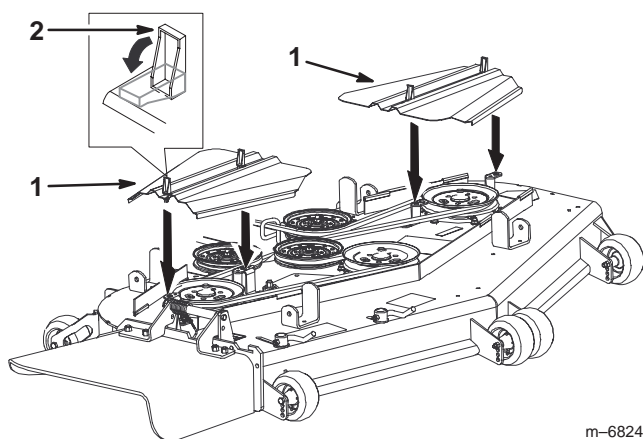

Figure 74
- Remove the belt covers (Fig. 74).
- Install the belt covers and close the latches (Fig. 74).